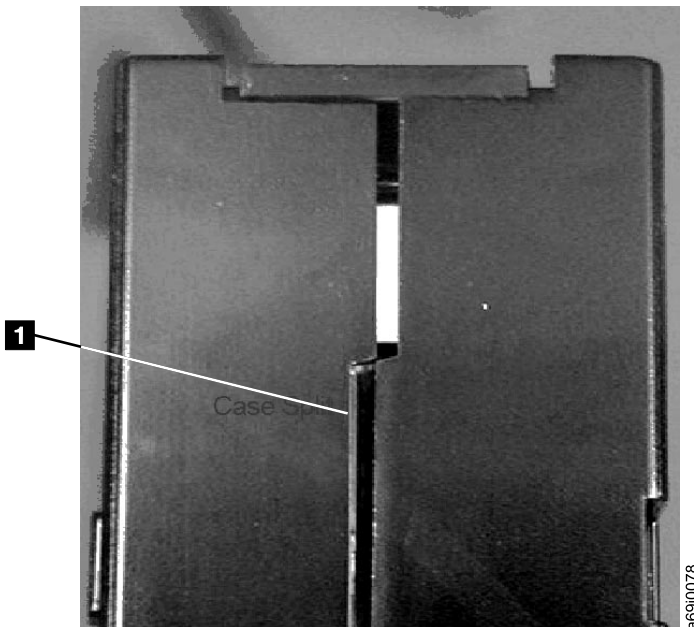
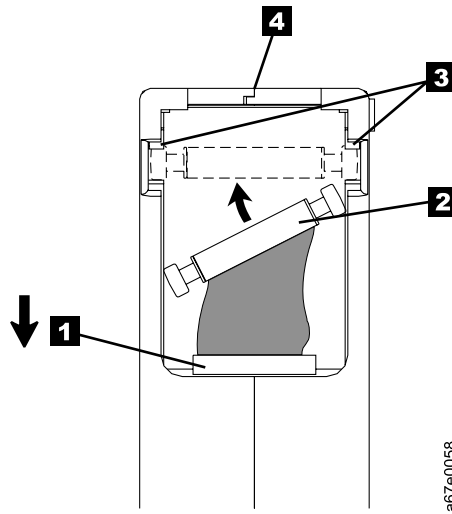

Figure 380. Checking for gaps in the seams of a cartridge
Figure 383. Placing the dislodged leader pin into the correct position. The cartridge door is open to show the leader pin.
- Inspect the rear of the cartridge (the part that you load first into the tape load compartment) and ensure that there are no gaps in the seam of the cartridge case (see **1** in Figure 380 and **4** in Figure 383 on page 258). If there are gaps in the seam (see Figure 380), the leader pin may be dislodged. Go to “Repositioning or Reattaching a Leader Pin” on page 257.
1. Slide open the cartridge door (**1** in Figure 383) and locate the leader pin (**2**) (you may need to shake the cartridge gently to roll the pin toward the door).